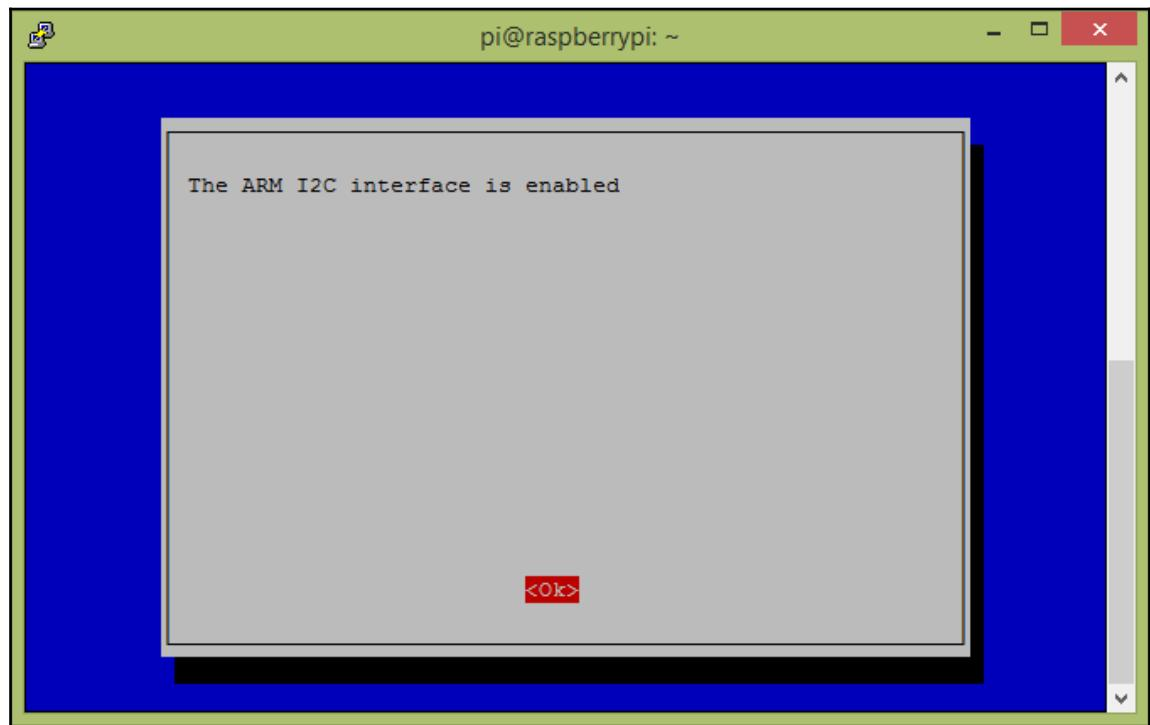

Figure 4-26: Configuration tool window
6. A confirmation message will appear, saying **The ARM I2C interface is enabled** (Figure 4-26). Press *Enter* to close the message box: